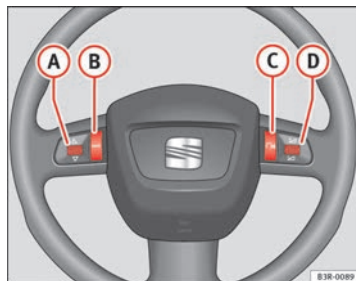

Fig. 64 Controls on the multifunction steering wheel
The functions are operated by pressing or scrolling the controls (A) to (D) on the multifunction steering wheel ⇒ Fig. 64: